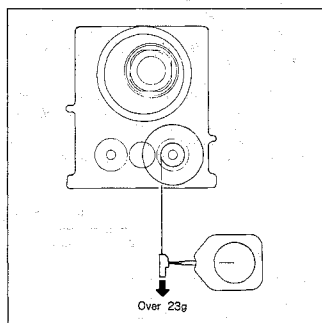

Fig. 7-58.
2. T main brake torque (See Figs. 7-58. and 7-59.)